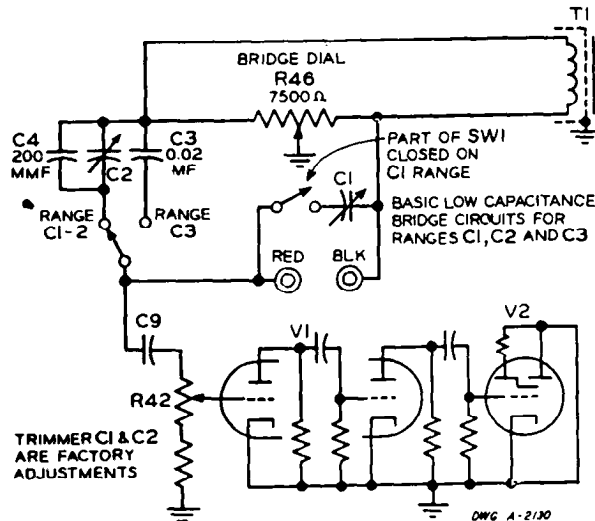
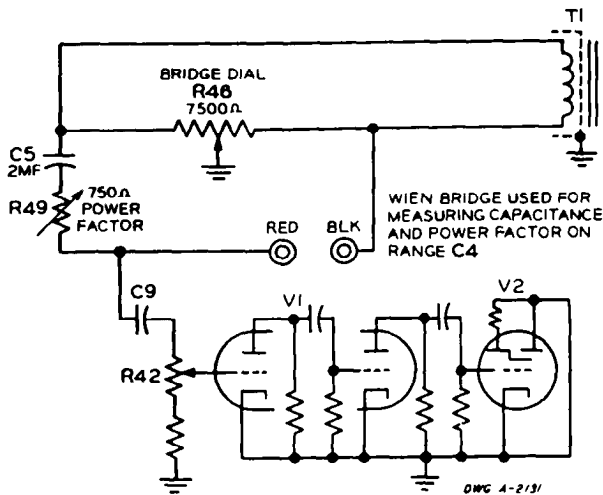

FIGURE 1
FIGURE 2
2.1 Measurements of capacitance from 1 mmf to 2000 mf are made on a 5-range line frequency capacitance bridge. Figure 1 shows a simplified circuit diagram of the bridge employed for the C_1 , C_2 and C_3 ranges. Figure 2 shows the basic circuit for the C_4 range, and Figure 3 is the circuit for the C_5 range. Since the bridge is balanced on all ranges by continuously varying the ratio arm, a highly accurate, linear-taper wirewound variable resistor is used for the main bridge element, R_{46} . These resistors are especially selected to assure proper accuracy of the calibrated dial. In addition, trimming resistors are provided at each end of the control (not shown on the basic circuits). The standard capacitors for the C_1 and C_2 ranges are stabilized silver-mica capacitors paralleled by silver-ceramic trimmers which are factory adjusted to compensate for variations in wiring capacitance. The C_3 and C_4 standards are matched pairs of Sprague DIFILM[®] molded tubular capacitors. R_{42} in the basic circuit is the sensitivity control for the amplifier which, along with the "magic-eye", tube constitutes the bridge balance indicator.